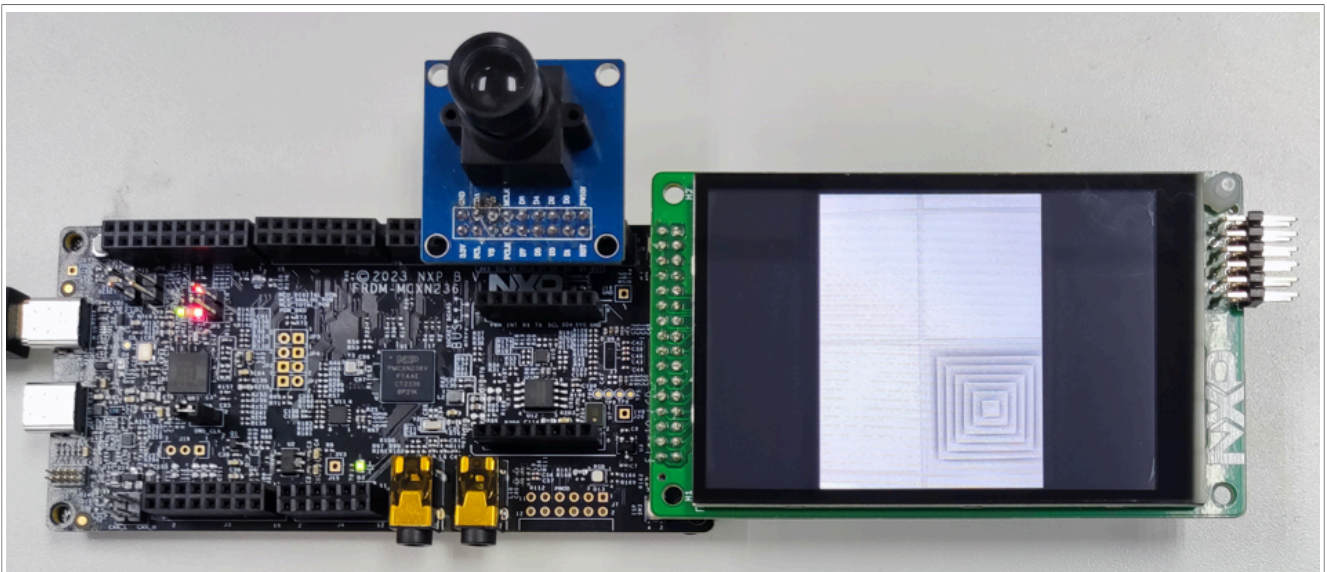

Figure 5. Demo based on FRDM-MCXN236
3. Connect the camera to the MCU by referring to the connection of interface in Figure 5.
5. The LCD displays the video frame from the camera, as shown in Figure 5.